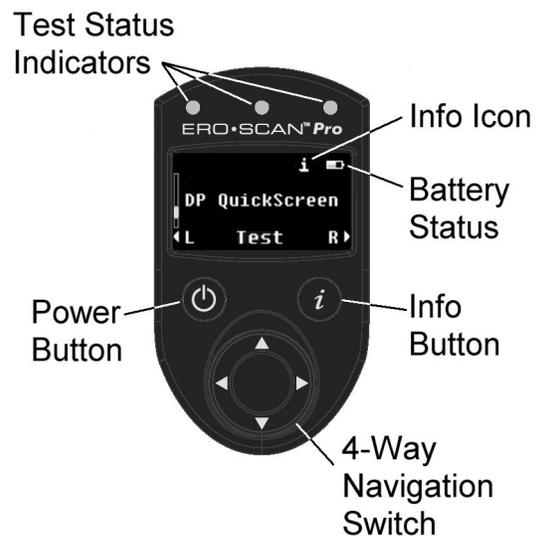

Figure 1
3.1 Controls and display (Figure 1)
5. To begin a test Press the right or left arrow button on the control panel (Figure 1) or press the L or R button on the external probe.